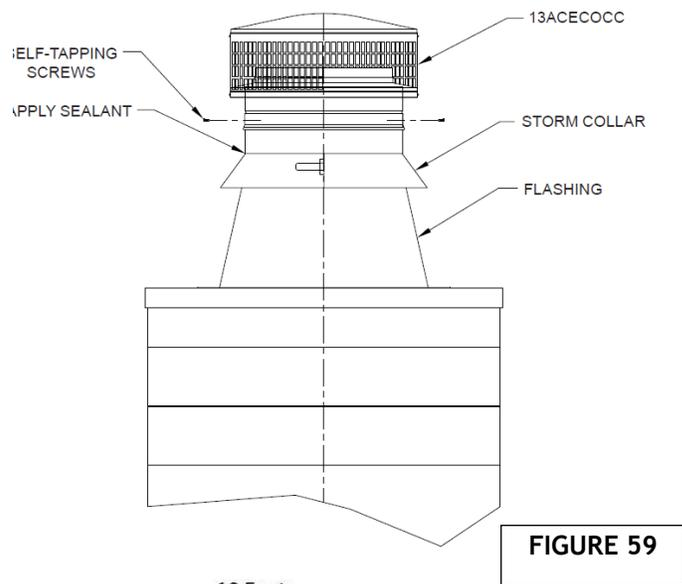
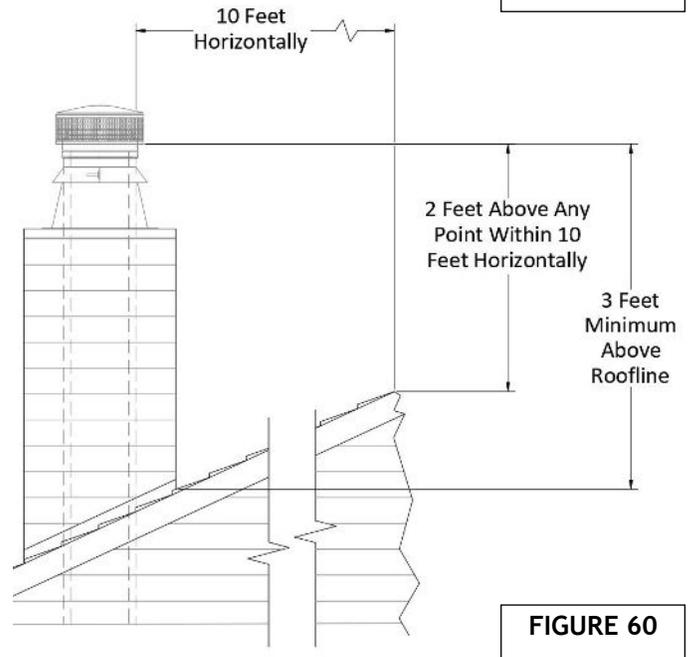

FIGURE 59
FIGURE 60
10. Attach the storm collar around the chimney above the screen of the flashing. Secure in place with the locking tab and button. Seal around the storm collar with a non-hardening waterproof sealant. (**Figure 59**).
11. Attach the Fan Adapter to the chimney by sliding the male to female joint connection together and secure in place with four (4) sheet metal screws provided
12. Termination: NFPA 211, “Standard for Chimneys, Fireplaces, Vents, and Solid Fuel- Burning Appliances,” states that chimneys shall extend at least 3’ above the highest point where it passes through the roof of a building, and at least 2’ higher than any portion of a building within ten feet (**Figure 60**).
- If the horizontal distance from the roof ridge to the opening of the chimney is less than 10’, the top of the chimney must be at least 2’ above the roof ridge. (**Figure 60**)
- If the horizontal distance from the opening of the chimney to the roof ridge is more than 10’ then a chimney height “work point” is established on the roof surface 10’ horizontally from the opening of the chimney. The top of the chimney must be at least 2’ above this work point. (**Figure 60**)
- In all cases, the chimney cannot be less than 3’ above the roof at the edge of the chimney (**Figure 60**).